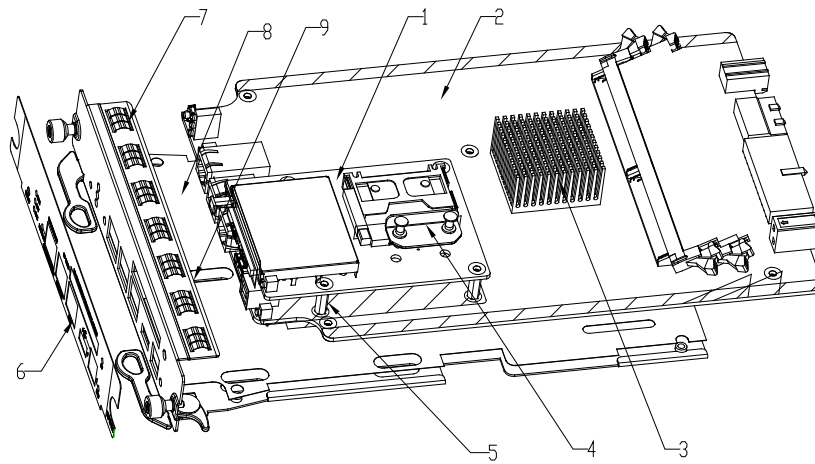

Figure 1 Explode View of the Front Panel
8. All the steps above see Figure 1. Remove the battery from pcb 1, and the detail steps as below: